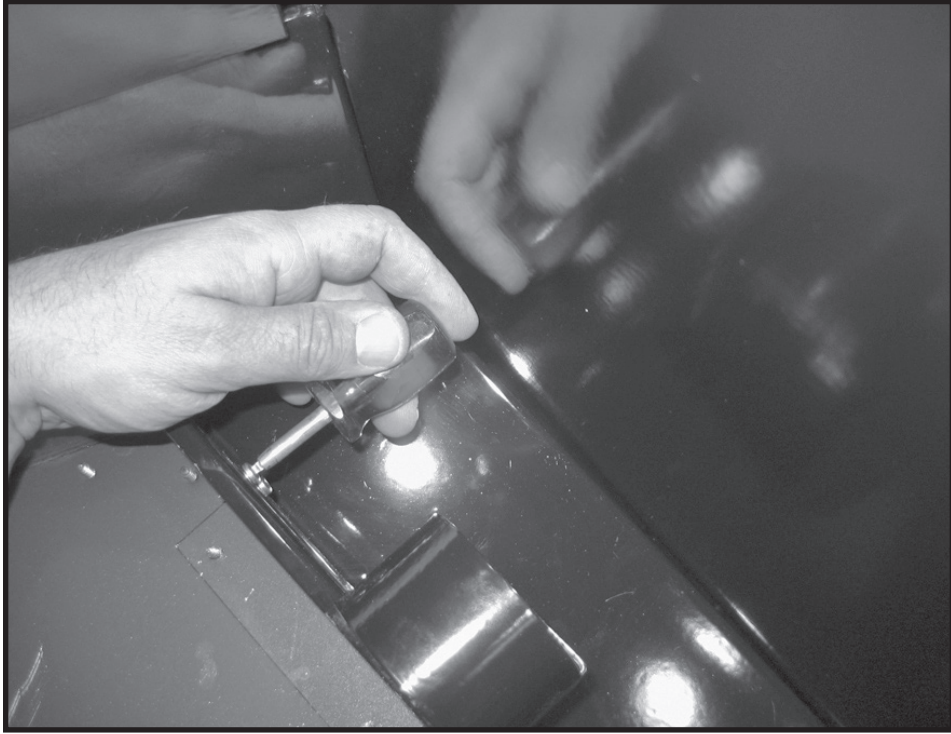

Figure 24: Removing the pilot shield from burner tray.
4. Remove the pilot shield from the burner tray by removing two screws (Figure 24).